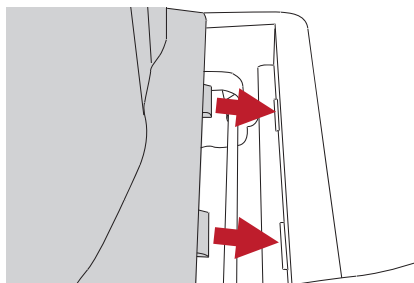

Figure 5
- Slide the seat into place so that the tabs on the back of the seat base slide into the notches in the body. See Figure 5.